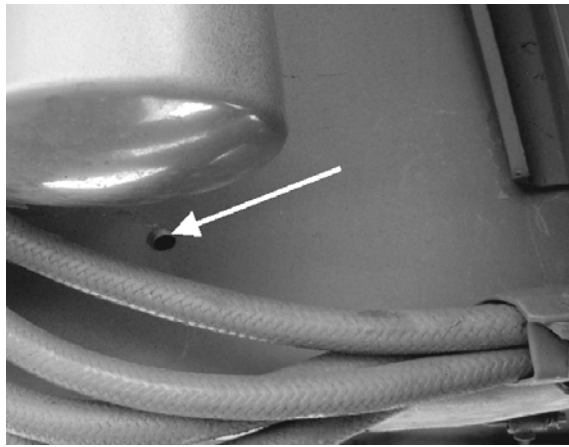

Figure 5 Location of Hole for Hose Bracket Fitting
- a. Insert 1½ by ¾ inch UNF bolt (fitted with washer) through hole in chassis rail, behind primary fuel filter (see Figure 5).